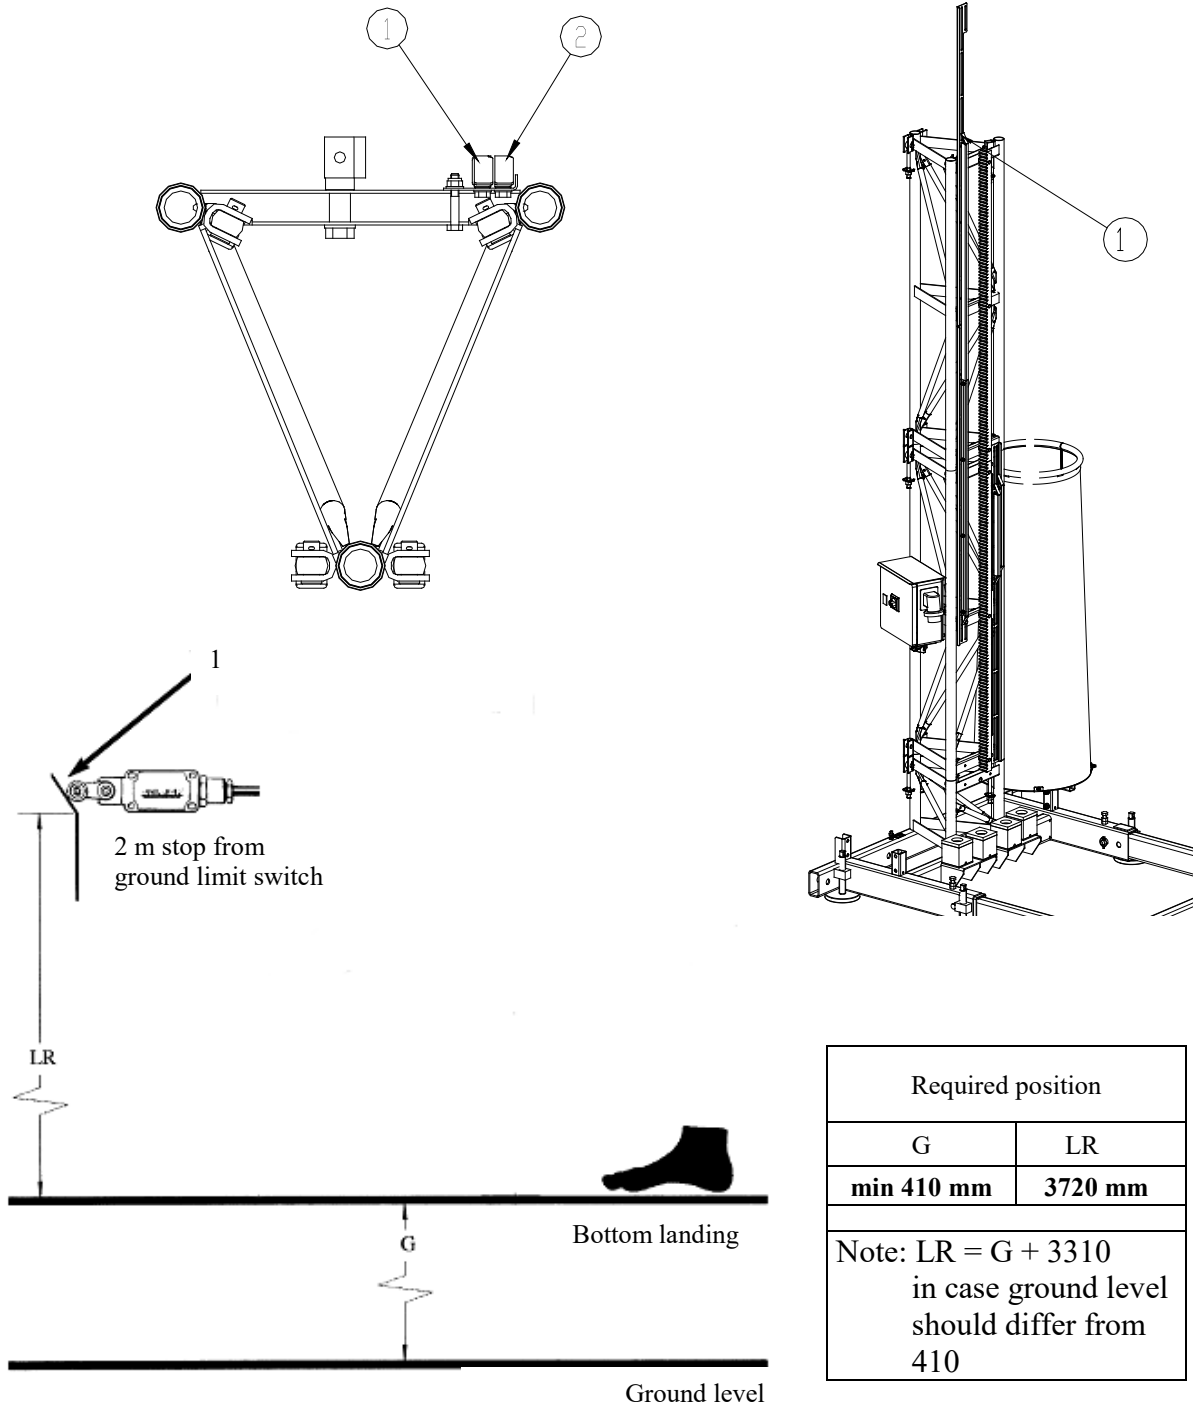

Fig.H.36 2 m stop cam
62. The 2 meter stop (1-fig.H.36) cam must be assembled on the left side of the mast, near to the stop landing cam (2-fig.H.36).